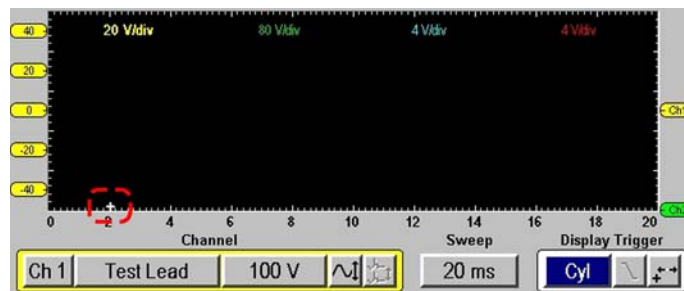

Figure 4-57 Sample Cyl Trigger Position marker
- If the Cyl trigger is selected, a white plus-sign (+) displays along the bottom of the graph area which represents the point in time and the level at which a cylinder will be triggered (Figure 4-57).